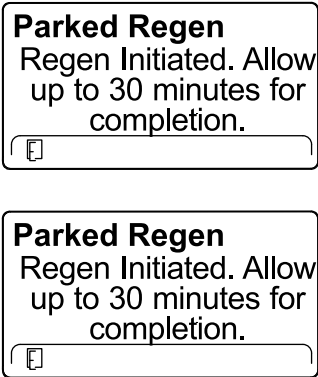

Figure 66
- The InfoCenter displays the time to complete message (Figure 66).